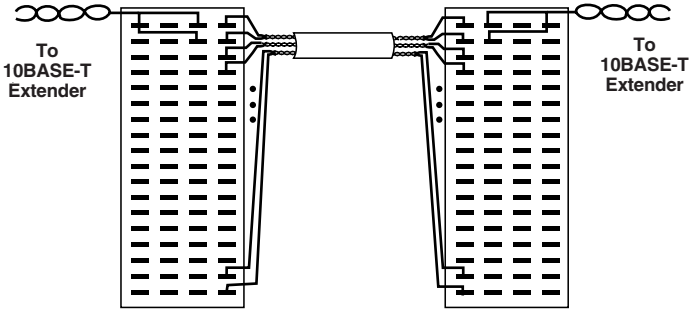

Figure 3-6. Long-distance links and bridge taps—correct connection.
2. Locate and identify each pair of wires that you will use for the long distance interconnection. The wire pairs must only run between the two points to be connected. The link will not connect if there is a bridge tap anywhere on the link (see **Figure 3-6**).